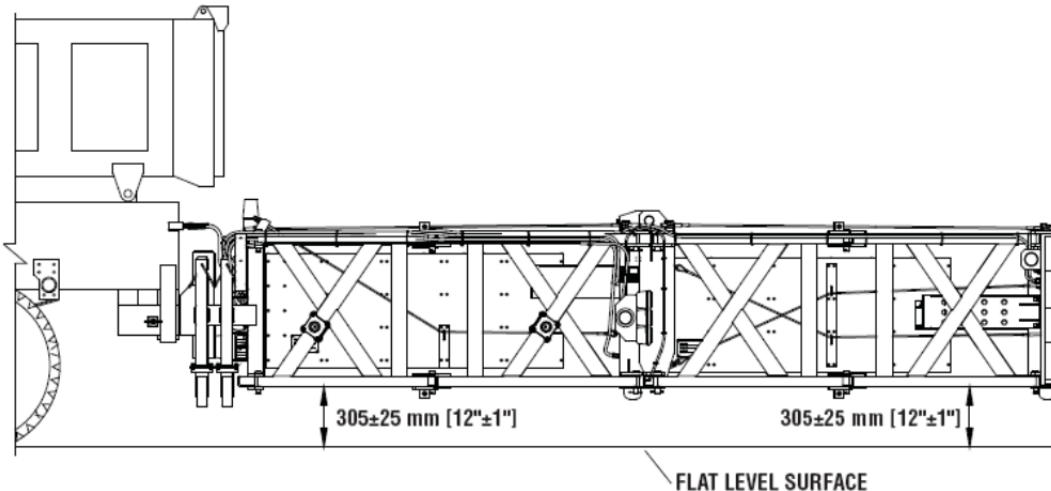

Figure 23
1. Height and Levelness - The height and levelness of the system is important to its impact performance. Check regularly and adjust as necessary (See Figure 23).